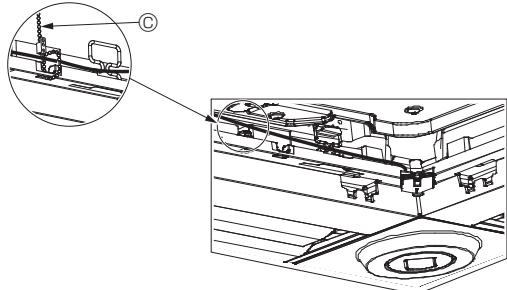

Fig. 6-13
- Secure the i-See sensor and signal receiver wires to the panel with the fastener as shown in the diagram so that there is no slack in the wires, and then cut off the excess end of the fastener. (Fig. 6-13)
- If the position of the i-See sensor was changed from the “○” position (E) to the “□” position (F), change the switch settings. (Refer to page 14.)